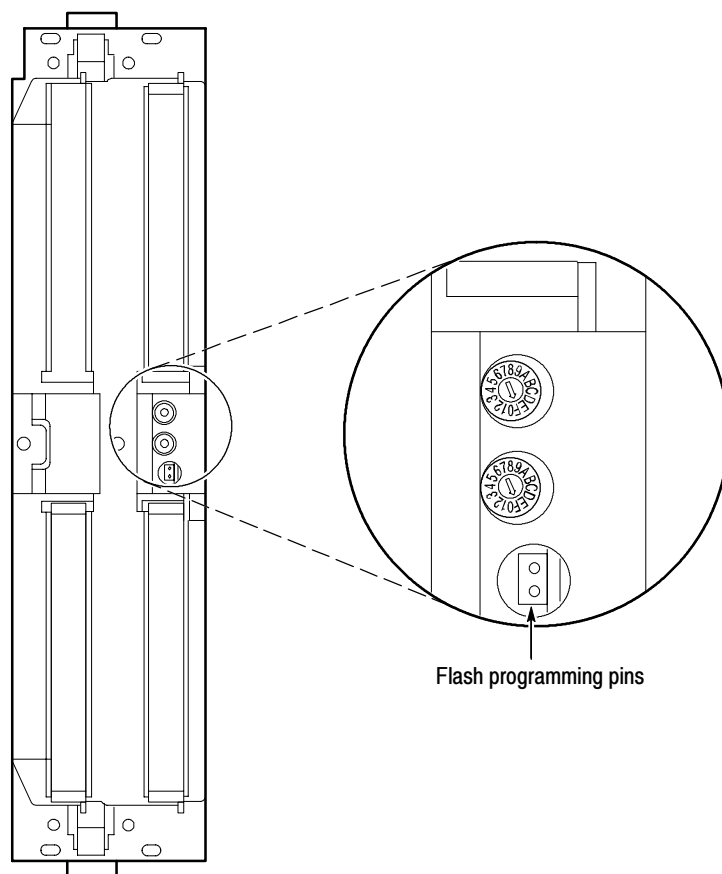

**Figure G-1: Flash programming pins**
5. Refer to Figure G-1 and locate the flash programming pins on the rear of each module.